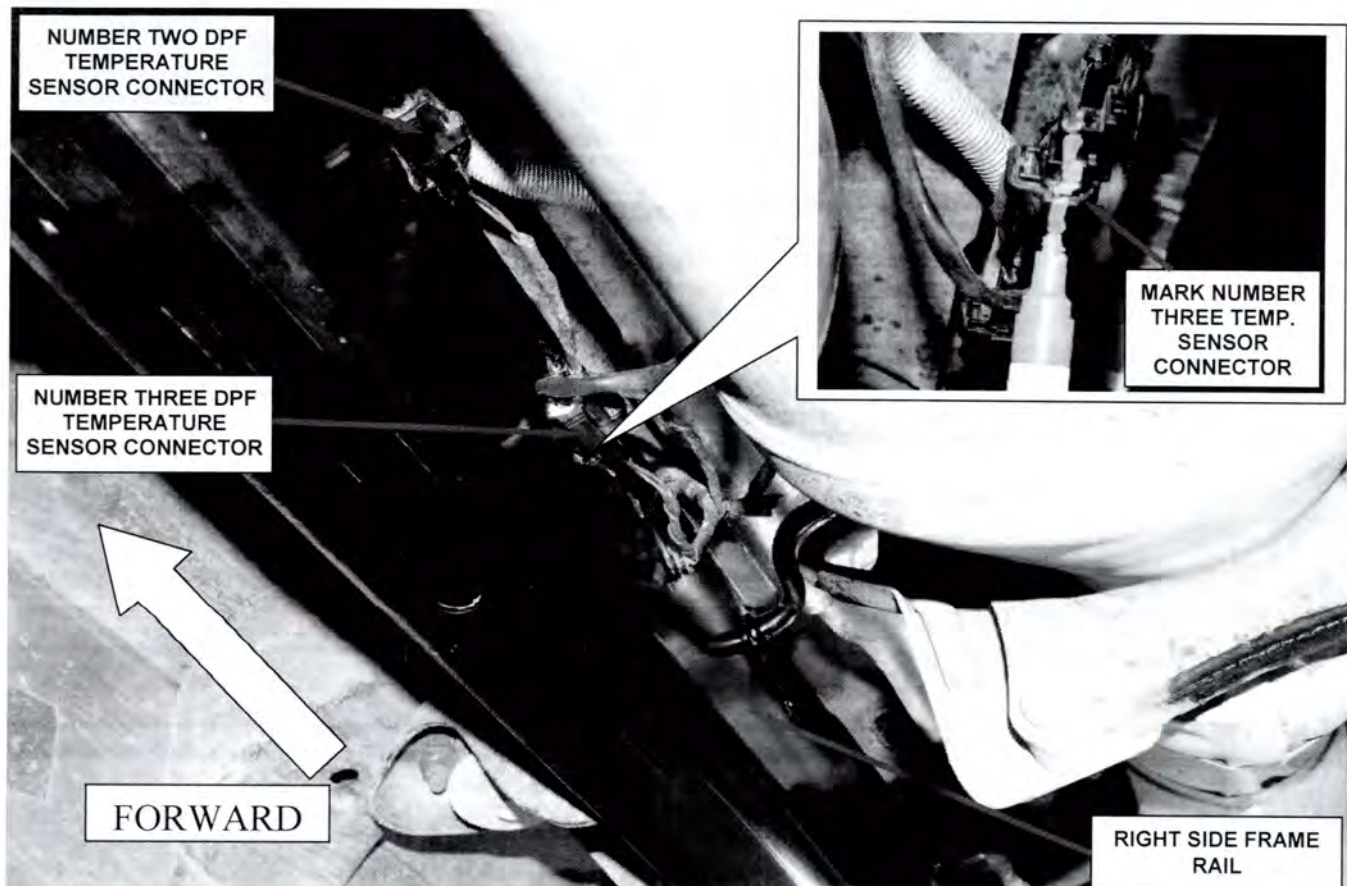

Figure 6 – Mark the Rear Connector
2. Using a china marker or equivalent, place an identification mark on both sides of one of the Diesel Particulate Filter (DPF) temperature sensor electrical connectors (Figure 6).